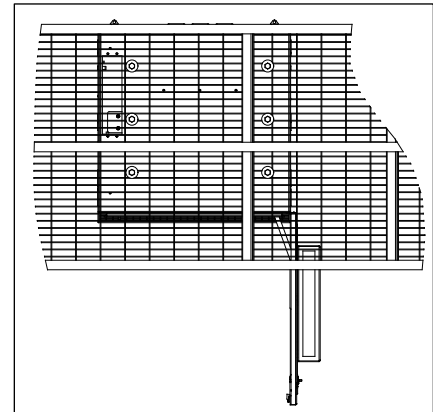

Figure 6 **Installing on a Platform**
7. To secure the CUBE to a steel grate platform, install 1/2" corrosion-resistant Grade 5 steel hardware through the cabinet and platform grate. Ensure that the bolts are long enough to extend past the nut on the bottom side of the platform grate. For all mounting applications, each bolted joint should have a minimum Ø1 inch fender washer on the inside of the cabinet (and underside of the platform grate for platform mounting) with a lock washer. The washer on the underside of the platform must be large enough to cover both adjacent bearing bars as shown in Figure 6.